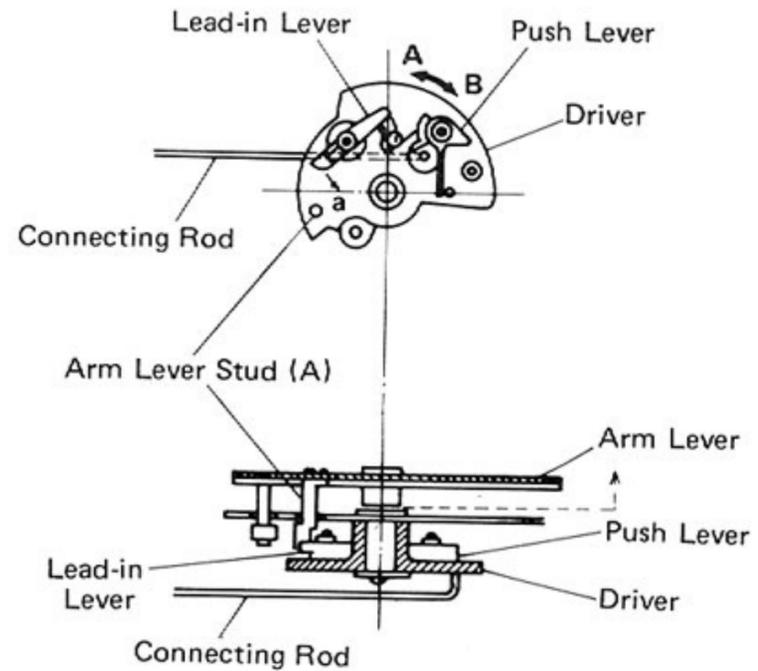

Fig. 7
The lead-in lever keeps away from arm lever stud (A) see Figure 7.
Note: When the driver rotates in direction A, the lead-in lever must be directed toward "a" as shown in Figure 7. Take note of this during adjustment.
According to the SIZE button setting (17 or 30 cm), the tone arm will be moved to the required position on the record. Part (A) of the arm lever (see Figure 10) contacts the index stop (17 or 30 cm) and this determines the lead-in position then the lead-in lever returns toward "a" (see Figure 7).